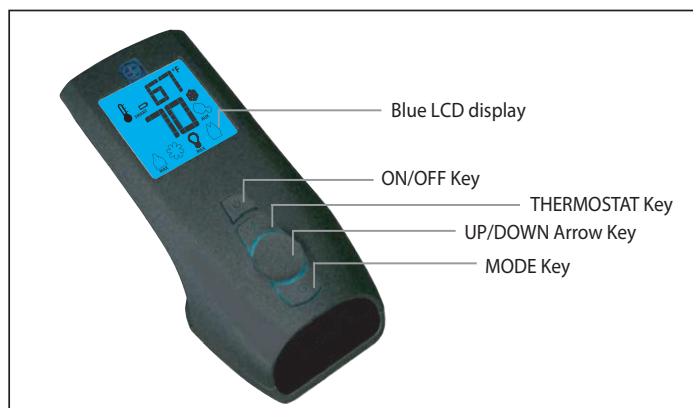
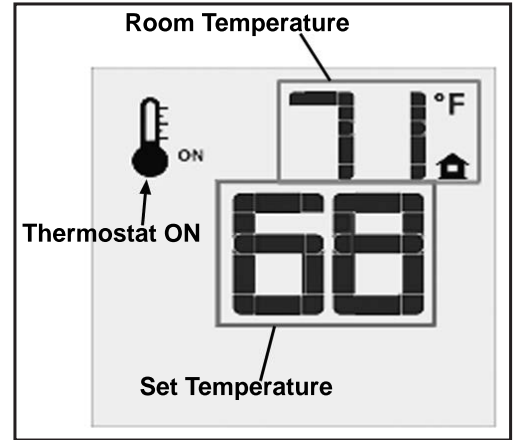
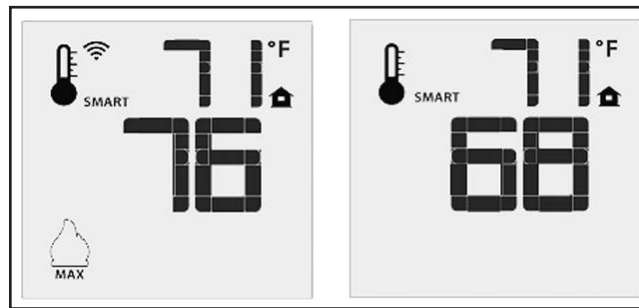
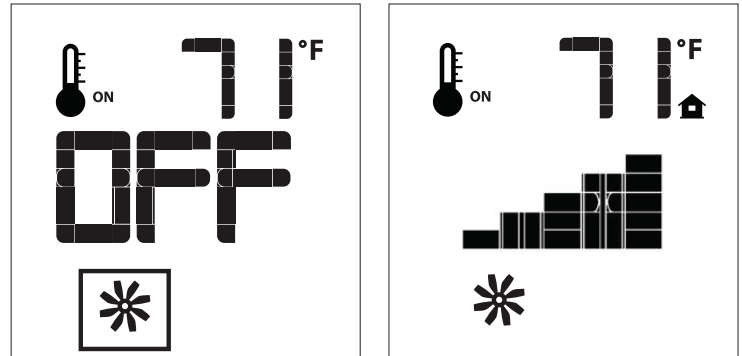

Figure 5: Proflame 2 Transmitter.
Figure 10: Remote Control Displays Set Temperature.
Figure 11: Remote Control's Smart Flame Function.
Figure 13: Fan Control
The Proflame 2 Transmitter is a black remote control with a blue backlit LCD display. It uses a streamline design with a simple button layout and informative LCD readout (Figure 6). The Transmitter is powered by three (3) AAA type batteries. A Mode Key is provided to Index between the features and a Thermostat Key is used to turn on/off or index through Thermostat functions (Figure 5 & 6)
Press the ON/OFF Key on the Transmitter. The Transmitter LCD display will only show the room temperature and Icon (see Figure 10). A single "beep" from the IFC confirms reception of the command and both the pilot light (if the unit is not set to continuous pilot) and main burner will turn off.
The Remote Control can operate as a room thermostat. The thermostat can be set to a desired temperature to control the comfort level in a room. To activate this function, press the Thermostat Key (see Figure 5). The LCD display on the Transmitter will change to show that the room thermostat is "ON" and the set temperature is now displayed (see Figure 10). To adjust the set temperature, press the Up or Down Arrow Keys until the desired set temperature is displayed on the LCD screen of the Transmitter.
The Smart Thermostat function adjusts the flame height in accordance to the difference between the set point temperature and the actual room temperatures. As the room temperature gets closer to the set point the Smart Function will modulate the flame down. To activate this function, press the Thermostat Key (Figure 5) until the word "SMART" appears to the right of the temperature bulb graphic (Figure 11). To adjust the set temperature, press the Up or Down Arrow Keys until the desired set temperature is displayed on the LCD screen of the Transmitter.
The Q2GI comes with a convection fan that can be controlled with the Transmitter. The fan speed can be adjusted through six (6) speeds. To control the fan press the MODE key (Figure 5) to index to the fan control icon (Figure 13). Use the UP/DOWN arrow keys to turn on, off, or adjust the fan speed (Figure 13). A single beep from the IFC will confirm the command has been received